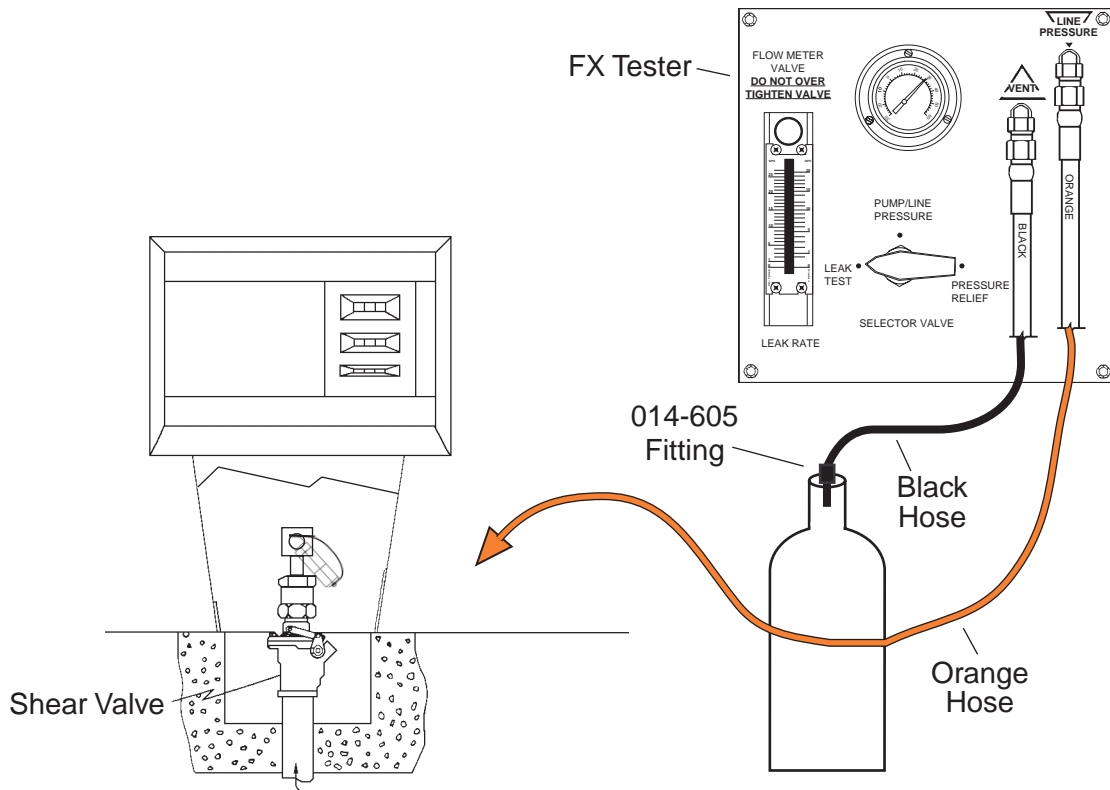

Figure 3.
Some submersible pumps are not equipped with tank vents. In this case, the LLD should be tested from the shear valve under the dispenser. A Snap-Tap can be installed in the shear valve (see Figure 3). Once the Snap-Tap is installed, the line can be accessed. A 014-605 fitting must be installed on the black discharge hose to allow flow to occur into the container.
3. Plug the FXT into the Snap-Tap on the dispenser shear valve as shown in Figure 3 on page 9.
For manifolded systems that have two LLDs on a single line and the pumps operate simultaneously, testing must be performed at the impact valve, as shown in Figure 3.